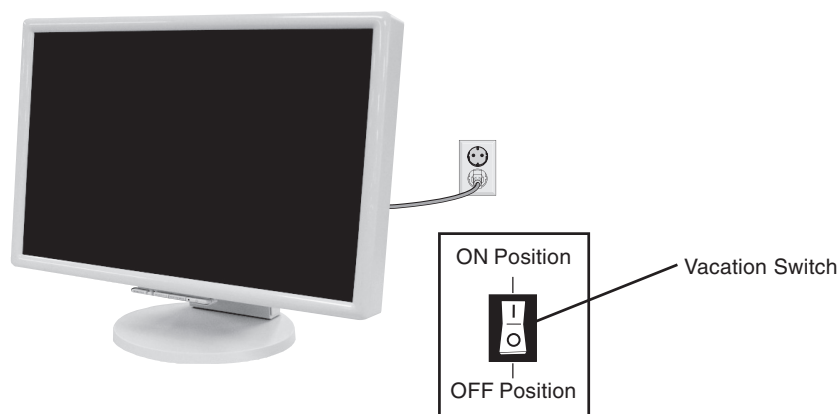

Figure D.1
12. Connect the power cord to the power outlet (**Figure D.1**).
13. The vacation switch on the back side of the monitor must be turned on (**Figure D.1**). Turn on the monitor with the front power button and the computer.